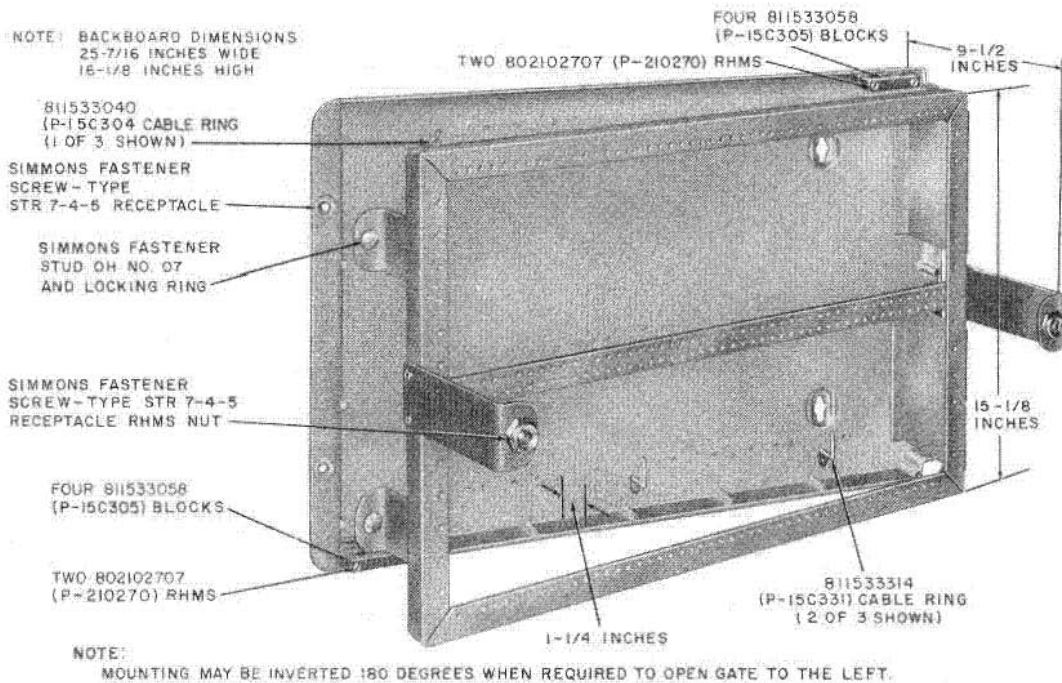

Fig. 5—16C Apparatus Mounting
3.03 The 16C apparatus mounting (Fig. 5) is a hinged metal framework comparable to the 16A apparatus mounting. The molded fiberglass backboard is drilled to handle 66-type connecting blocks. On mountings manufactured after July 1973, the mounting key holes are slotted at both ends and a second cable entry hole has been added to allow the apparatus to be mounted with the gate hinges at either left or right. Cable rings should be installed in the apparatus mounting after deciding which edge is top and bottom. The 16C apparatus mounting is primarily intended to mount 200-series KTUs but can also be used for the following: